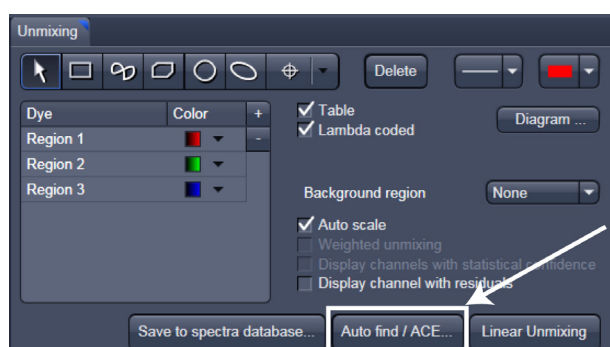

Fig. 265 Automatic Component Extraction function
- Click on the **Auto find / ACE...** button in the **Unmixing** View Option control tab (Fig. 265).
- When the obtained spectra appear reasonable, unmix the data set by clicking the **Linear Unmixing** button (Fig. 265).